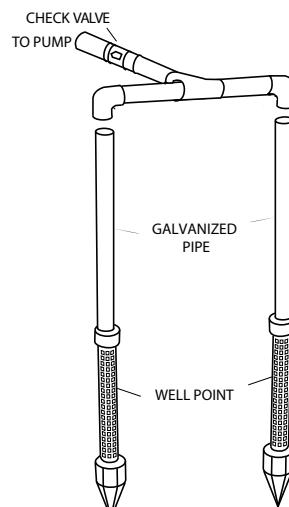

Figure 5
#### **A. Suction Port Connection (Figure 5)**
5. Start the pump. A properly primed pump should discharge water without air at a consistent pressure. If the pump does not produce water after five minutes, stop the pump, release all pressure, remove priming port plug, add more water, replace plug, and try again. Ensure that a foot valve is properly installed on the suction pipe (Figure 5).